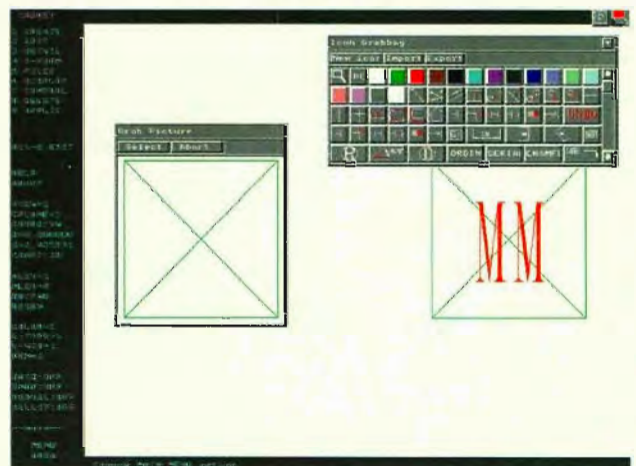

Figure 2
5. Surround the geometry on the left with grab window and click on *Select*. See Figure 2.